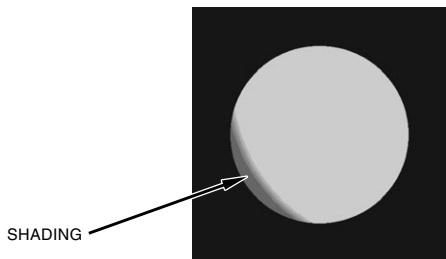

FIGURE 2.3. SHADING
(1) Shading. If shading is present, you will not see a fully circular image (see Figure 2.3.). Shading is very dark and you cannot see an image through it. Shading always begins on the edge and migrates inward eventually across the entire image area. Shading is a high contrast area with a distinct line of demarcation. Return the NVG to the maintainer.